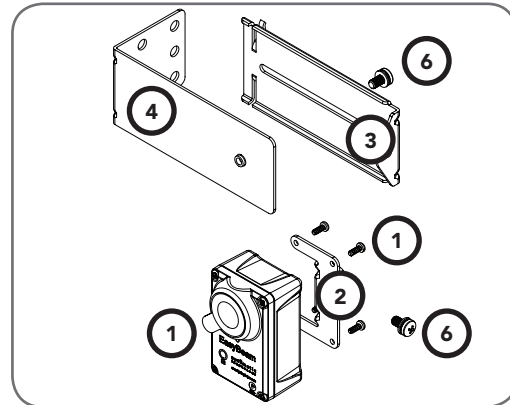

Fig 8.1
- Attach the mounting bracket (4) to the adjustment bracket (3) with the pan head screw (6). (Fig. 8.1)